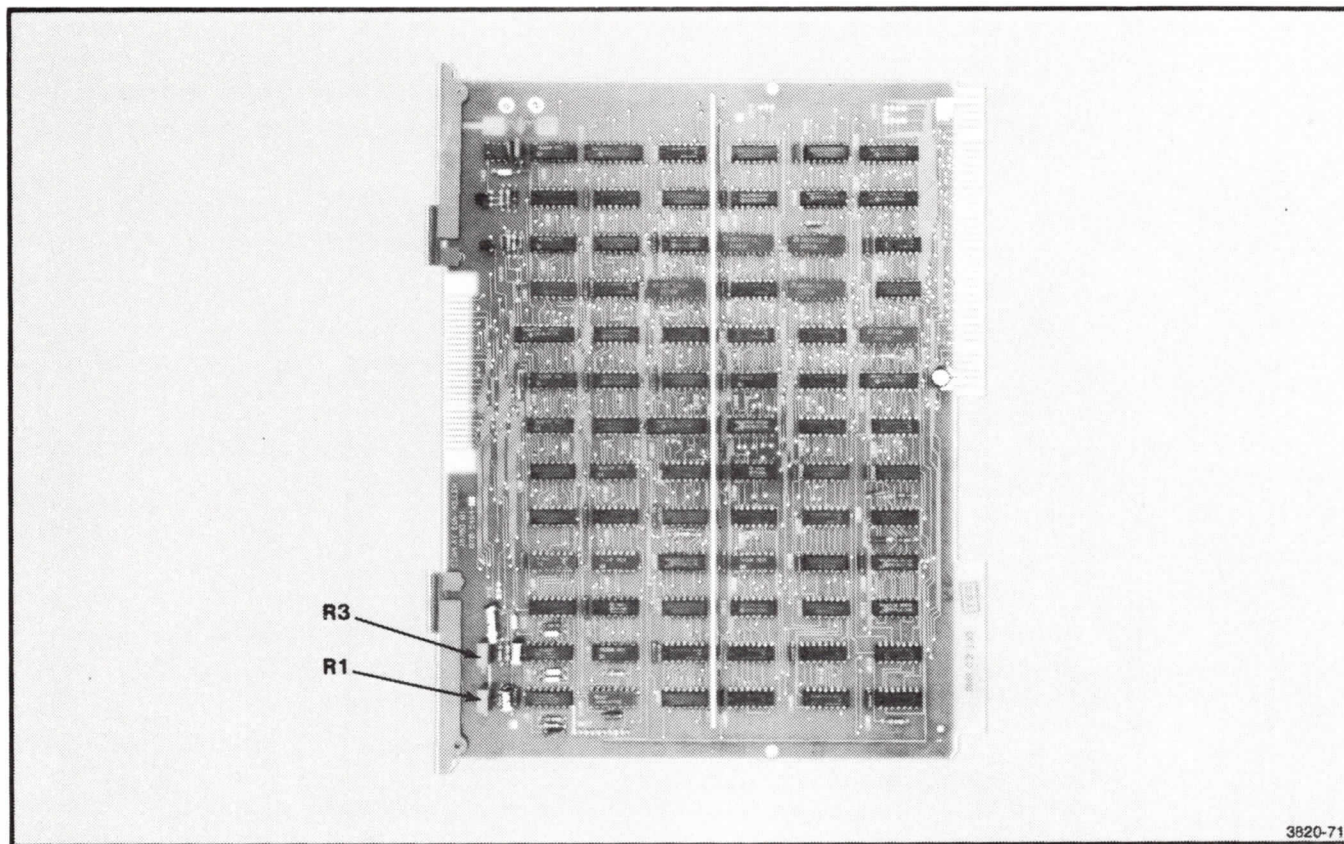

Figure 10-5. Display Controller Board Adjustments.
5. Adjust R1 and R3 on the Display Controller board for maximum vector closure at both ends of a vector. The letter B consists of a good number of vectors to work with. If R1 or R3 is adjusted too far, a bright spot appears at one end of the vector, depending on which resistor is adjusted. Adjust the vectors so that the bright spots are just barely perceptible. Figure 10-5 shows the locations of R1 and R3.